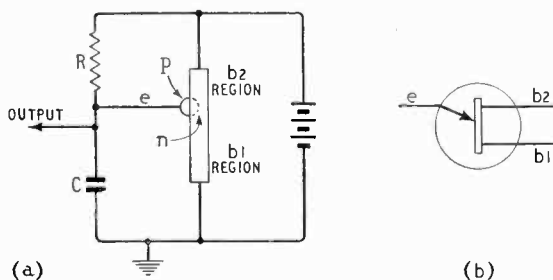

Fig. 1 (a) Oscillator circuit, using pictorial representation of the unijunction. (b) Symbol that has been used for double-base diode
**Beam-Width Modulation** devices are discussed in an article by H. Lashinsky in the May, 1961, issue of the *I.R.E. Transactions on Electron Devices* (p. 185). Referring to the diagram (based on Fig. 1 of this article) the voltage on the perturbing apertured grid just beyond the cathode gives the beam electrons a transverse velocity. Due to the longitudinal magnetic field this results in the beam taking up a scalloped aspect in which the scallop amplitude is determined by the magnetic field and the perturbing voltage and the scallop wavelength is determined by the magnetic field and the cathode-anode accelerating voltage. An apertured anode is used so that the intercepted beam current depends on the longitudinal position of this anode relative to the scallops. If then the anode voltage is modulated, the scallops move longitudinally relative to the aperture so that an a.c. component is produced in the intercepted beam current. Such a device can be used as a frequency multiplier by modulating the anode voltage so deeply that an integral number of scallops swing back and forth through the anode aperture. Two advantages of this type of multiplier are that the power is concentrated mainly in a single harmonic and that the harmonic number can be altered simply by altering the anode modulating voltage. Unfortunately, it can be shown that any harmonic frequencies obtained in this way must be less than the frequency of cyclotron motion of the electrons in the magnetic field. If the anode is square-wave modulated, a number of current pulses are
A general view of the oscillator is shown in photograph. With a supply voltage of 4.5V, the output is 350mV at a frequency of 300 kc/s. As can be seen from the circuit diagram given in Fig. 1(a)
Physically, the double-base diode consists of a bar of n-type semiconductor with two ohmic contacts, bases 1 and 2, made at the ends and at an intermediate position a third contact, the emitter, forming a p-n junction with the bar. The operation of this device when used in the circuit of Fig 1(a) is analogous to that of a thyatron relaxation oscillator and can be described as follows:—